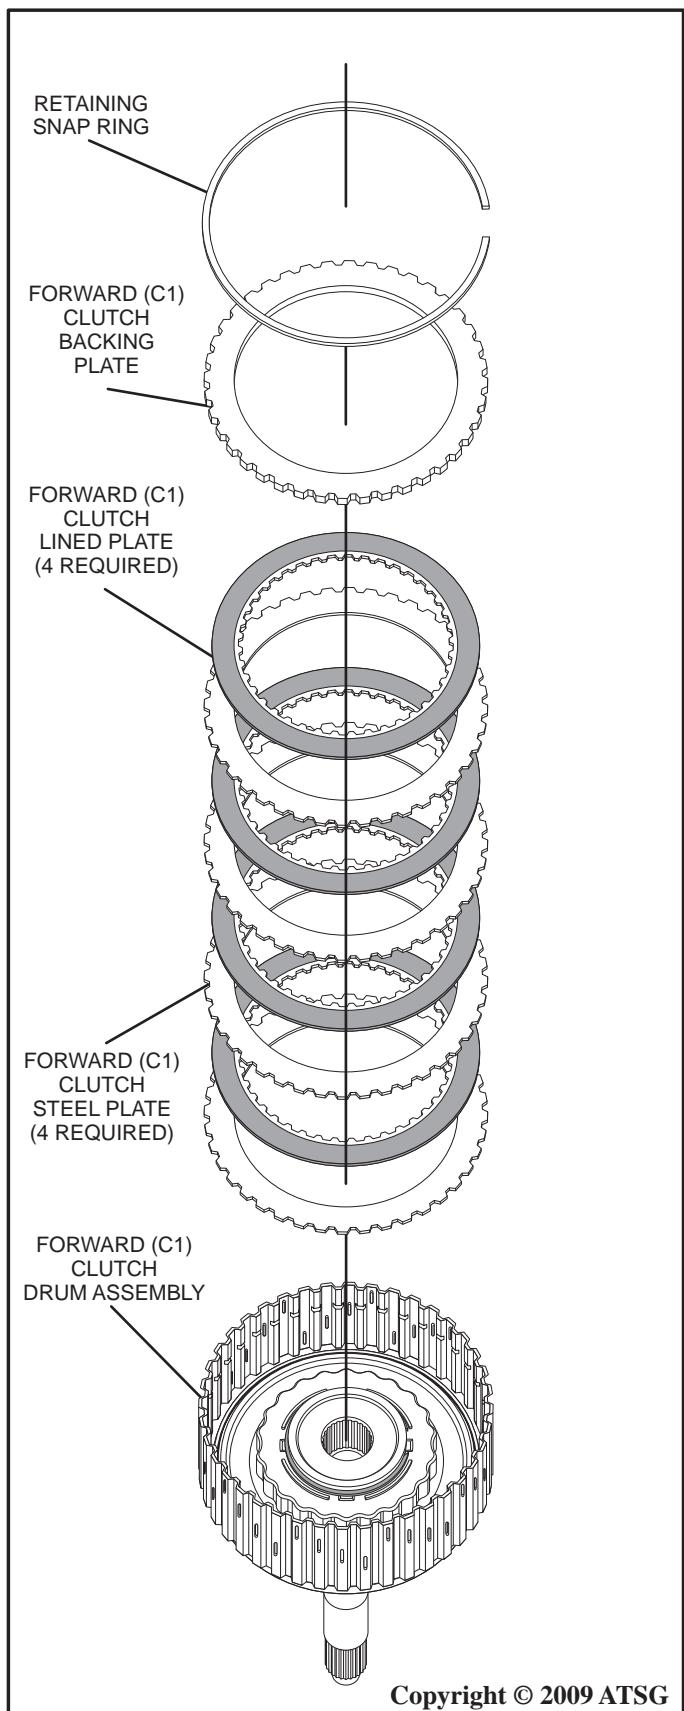

Figure 102
9. Install the forward (C1) clutch plates beginning with a steel plate, then alternating frictions and steels until there are four steel and four lined plates installed into the drum housing as shown in Figure 102.
10. Install the forward (C1) clutch backing plate into the drum housing as shown in Figure 102.
11. Install the retaining snap ring into the drum housing as shown in Figure 102. Check the forward (C1) clutch clearance using a feeler gauge between the backing plate and snap ring as shown in Figure 103.